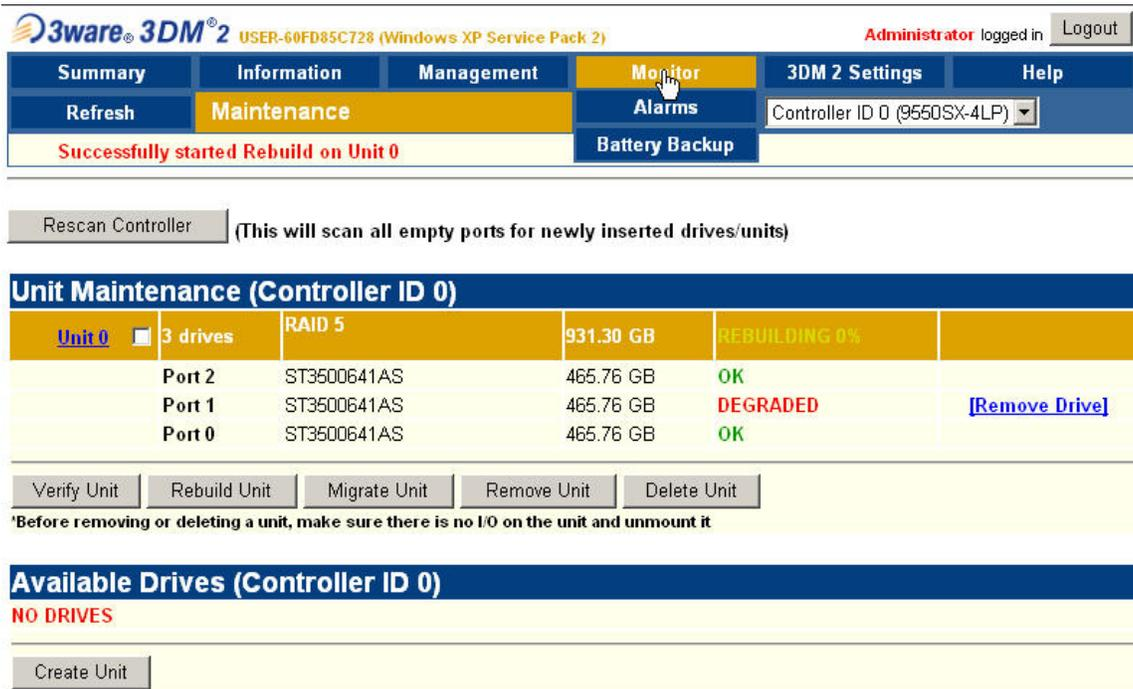

Figure 2-38
- 12) Observe that the replacement drive has now been incorporated into the RAID 5 array as illustrated in Figure 2-38 (note that this array is still shown as being DEGRADED).